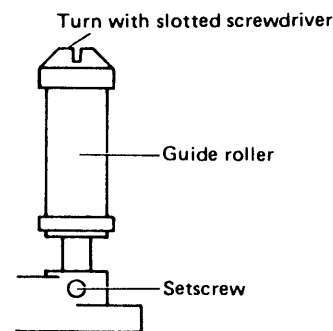

Fig. 2-25 Guide roller height adjustment
1. Slightly loosen setscrews of the supply and take-up guide rollers as shown in Fig. 2-25.